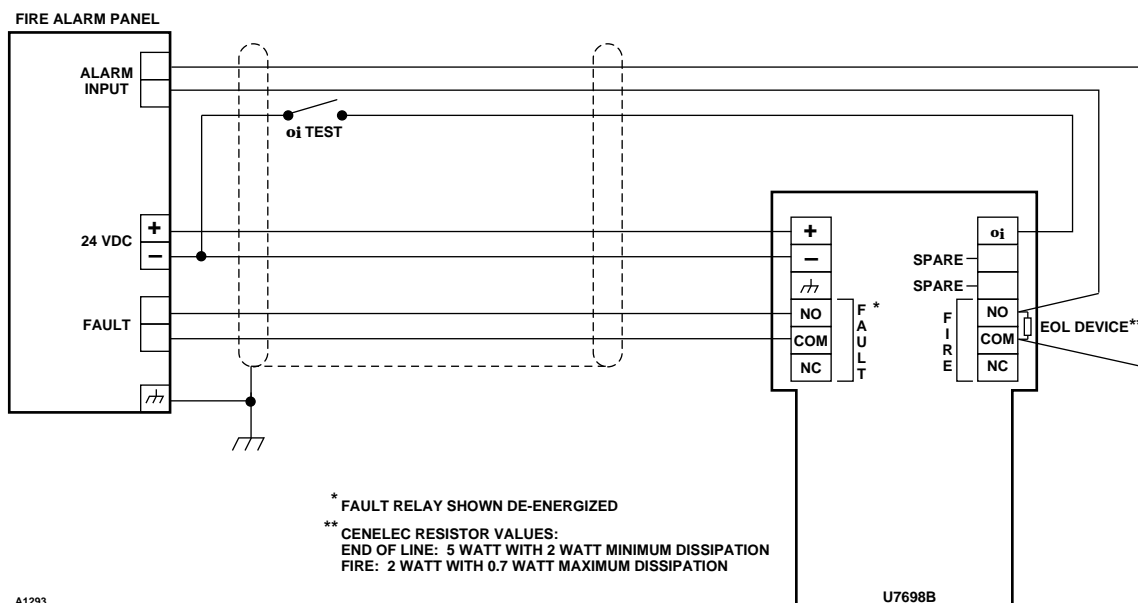
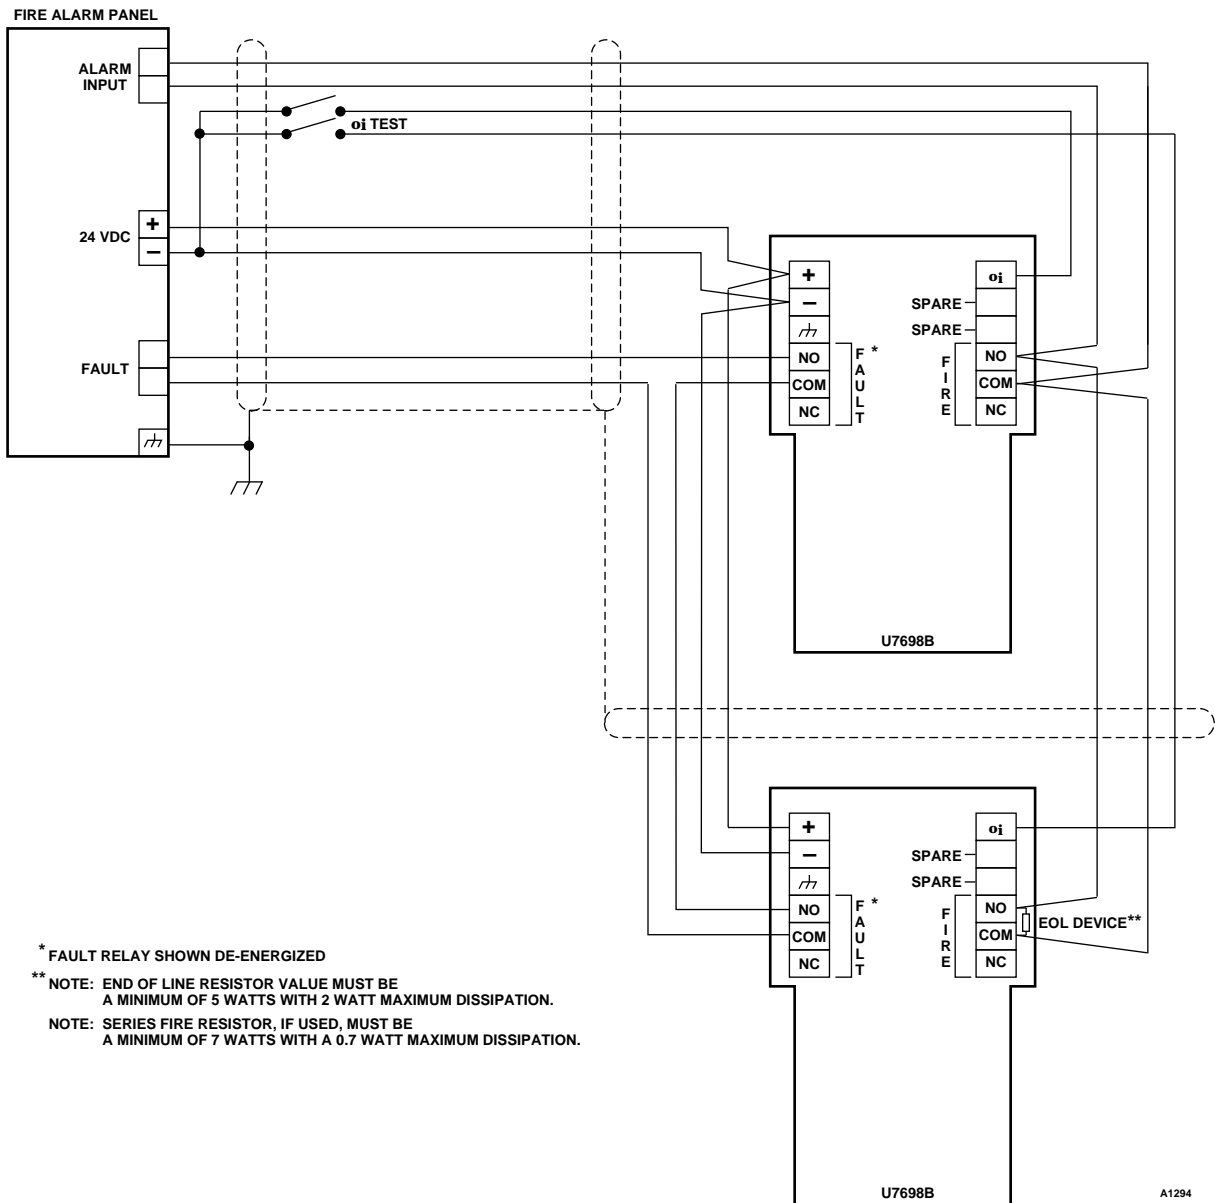

Figure 8—Typical Wiring Diagram
Figure 9—Typical Multiple Unit Configuration
6. Attach the wires to the appropriate screw terminals on the terminal block. Refer to Figure 8 for wiring a single unit and Figure 9 for a multiple configuration. Connect the shield to earth ground at the power source. Do not ground the shield at the detector/controller housing (unless required by local codes).